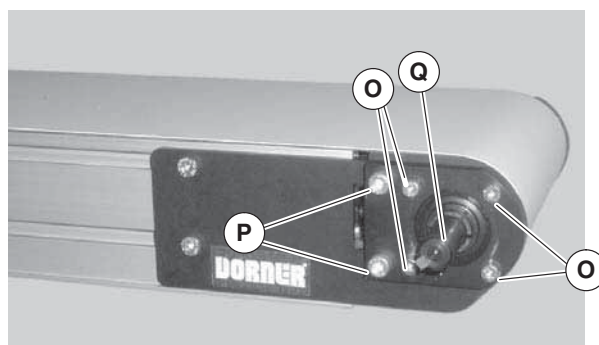

Figure 3
2. Locate drive output shaft (Figure 3, item Q). Remove two (2) M8 screws (P) and four (4) M6 screws (O) and discard.